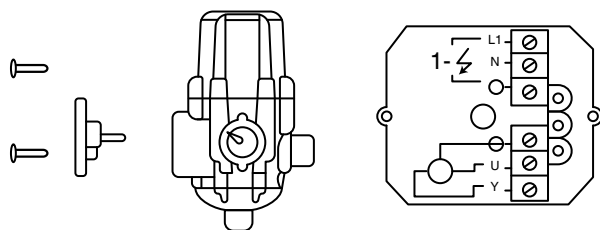

Fig.3
ELECTRIC CONNECTION (FIG.3)
- d) Incorrect electric connection on electronic boards check the connections according to Fig.3.